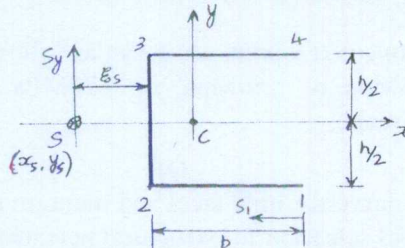

Fig Q6(b)
- b. Calculate the position of the shear centre of the thin walled channel section shown in Fig Q6(b). The thickness 't' of the walls is constant. (08 Marks)